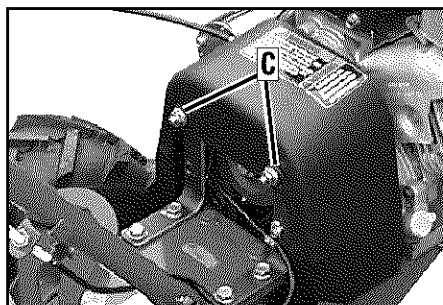

Figure 5-13: Belt cover.
2. Remove the two nuts (C, Figure 5-13) and remove the belt cover.
2. Remove the belt cover by removing the two nuts (C, Figure 5-13).
2. Remove belt cover (Figure 5-13) by removing two flange locknuts.